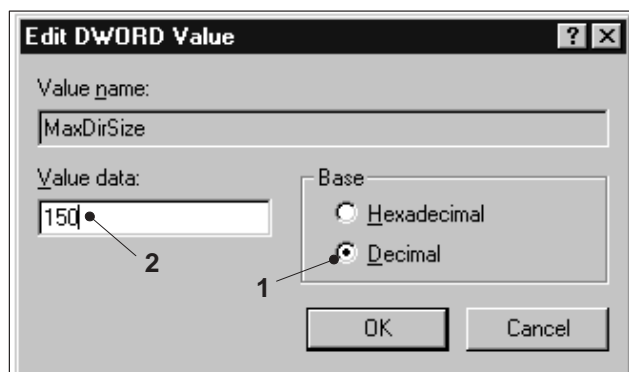

Fig. 7 Edit PUORD value
- 3 Click on the circle in front of **Decimal** (Fig. 7/1).
- 4 On the line **Value Data** (Fig. 7/2) enter the appropriate value.